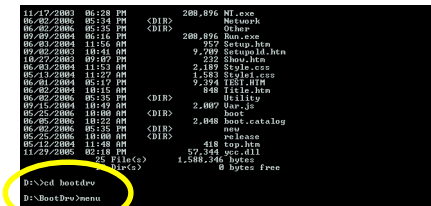

Figure 11
Step 1: Insert the prepared startup disk and motherboard driver CD-ROM in your system. Boot from the startup disk. Once at the A:\> prompt, change to the CD-ROM drive (example: D:\>). At the D:\> prompt, type the following two commands. Press ENTER after each command (Figure 11):